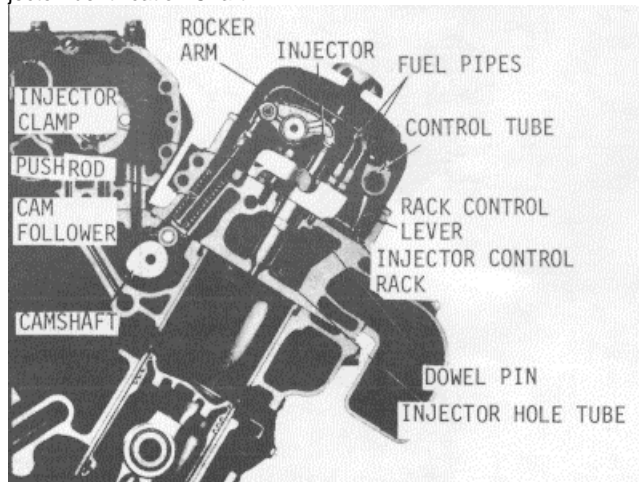

Fig. 6 Fuel Injector Mounting
The motion of the injector rocker arm is transmitted to the plunger by the follower which bears against the follower spring (Fig. 6). In addition to the reciprocating motion, the plunger can be rotated, during operation, around its axis by the gear which meshes with the control rack. For metering the fuel, an upper helix and a lower helix are machined in the lower part of the plunger. The relation of the helices to the two ports changes with the rotation of the plunger. As the plunger moves downward, under pressure of the injector rocker arm, a portion of that fuel trapped under the plunger is displaced into the supply chamber through the lower port, until the port is closed off by the lower end of the plunger. A portion of the fuel trapped below the plunger is then forced up through a central passage in the plunger into the fuel metering recess and into the supply chamber through the upper port until that port is closed off by the upper helix of the plunger. With the upper and lower ports both closed off,
- (1) Clean and remove the valve rocker cover.
- (2) Remove the fuel pipes from both the injector and the fuel connectors (Fig. 6).